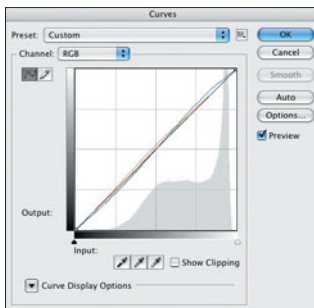

Figure 6.9 I created a curve that adjusts the red, green, and blue channels individually for a custom split tone.
2. Create a curve that adds color to the image (see Figure 6.9).